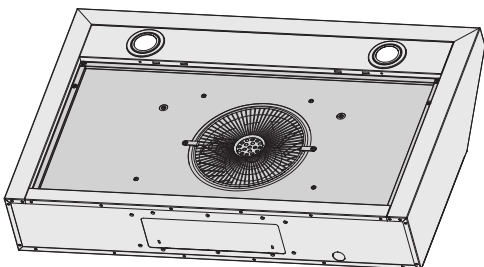

Figure 1
- Remove the two/three filters and easy-clean panel to allow access to the inside of the unit (see Figure 1 to 3).